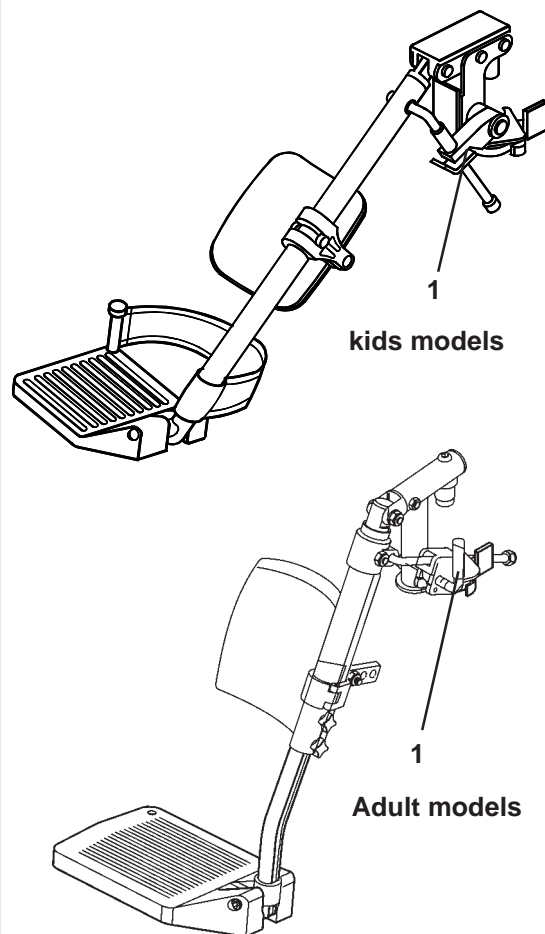

Fig. 20
To install or remove elevating legrests (ELR) see instructions for swing-away footrest assembly on previous pages. To raise the ELR, lift to the desired position, the ELR will automatically lock in place. To lower the ELR while seated in the wheelchair, press the release lever (1) and lower the legrest to the required position. The ELR will automatically lock in place (Fig. 20).